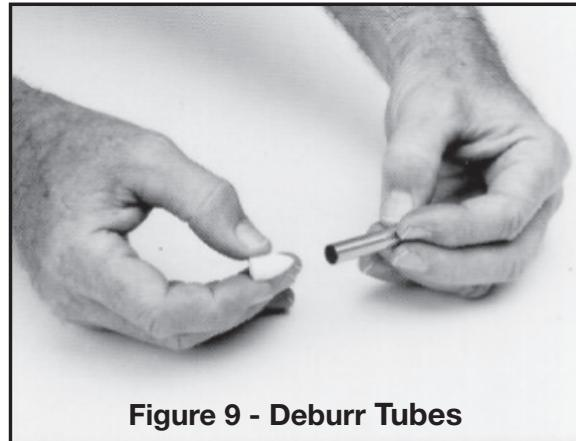

Figure 9 - Deburr Tubes
- The inside and outside of the tubes must be deburred after cutting. Use the stone which is provided for this purpose. Make sure there are no sharp edges on either tube inside and outside so as not to damage the cables. (See Figure 9.)